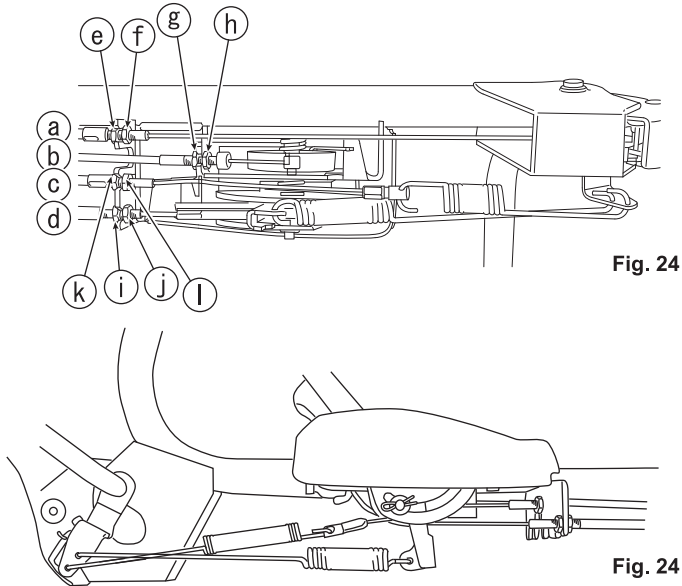

Fig. 24
8.5.1 Throttle Lever (See Figs. 24 and 25)
8.5.2 Blade Lever (See Figs. 24 and 26)
3. Confirm that the blade stops completely when the blade lever (C) is released.
8.5.3 Drive Clutch Lever (See Figs. 24 and 27)
3. Confirm that the machine can be pull backward when the drive clutch lever (B) is released.
8.5.4 Gearshift Lever (See Figs. 24 and 28)